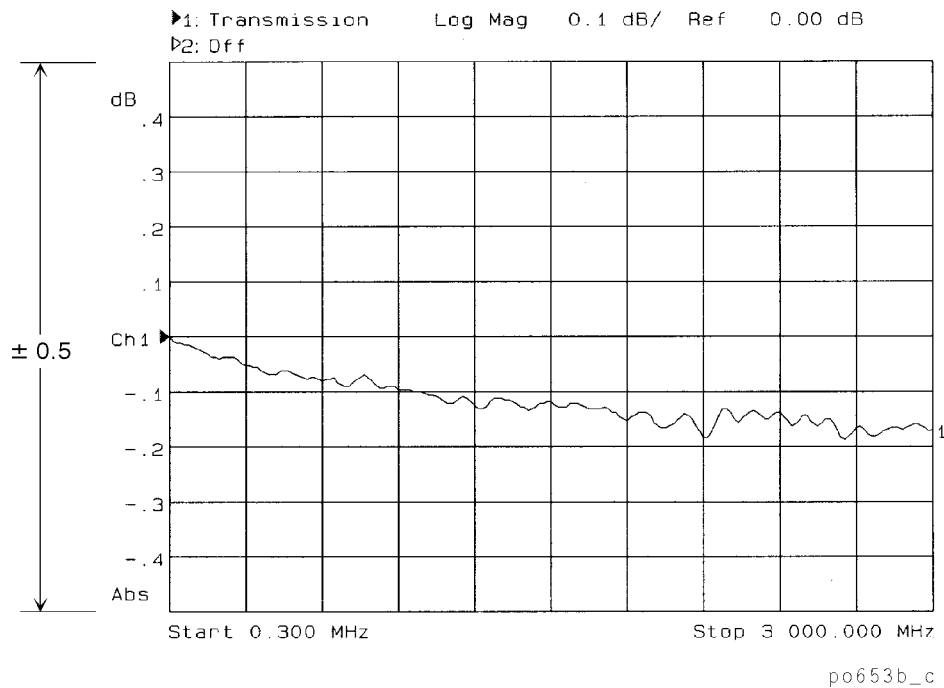

Figure 1-2. Typical HP 8713B/14B Transmission Measurement
3. Verify that the data trace falls within ± 0.5 dB of 0 dB. See Figure 1-2 for a typical HP 8713B/14B result. The HP 8711B/12B should look similar, but end at 1300 MHz.